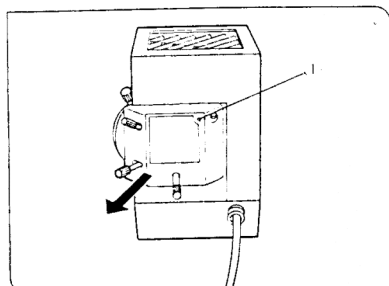

Fig. 5
(Figs. 5, 6, 7, 8, 9, 10, 11)
1. Remove the burner socket clamping screw ① using the Allen (hex) wrench provided with the microscope.
2. Remove the socket from the lamp housing indicated by the arrow. (Fig. 5)
3. Loosen the burner clamping screws ② and ③ (Fig. 5) and remove the securing post. (For burner replacement, remove the used burner.)
3. Tighten the socket clamping screw ① with the Allen (hex) wrench. (Fig. 5)
2. Before replacing the burner, for wait at least 10 minutes after shutting off, verify that the power switch is turned off and unplug the power cord before removing the burner. See Figs. 5, 6 for the replacement procedure.